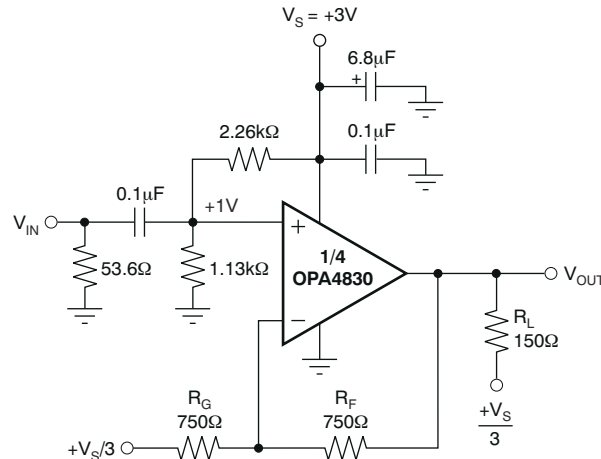
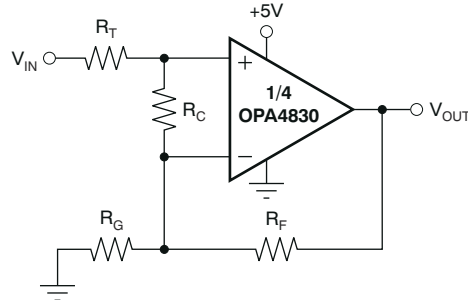

Figure 8-2. AC-Coupled, $G = +2V/V$, $+3V$ Single-Supply Specification and Test Circuit
Figure 8-7. Compensated Noninverting Amplifier
at $T_A = 25^\circ C$, $G = +2V/V$, and $R_L = 150\Omega$ to $V_S/3$ (unless otherwise noted); see also Figure 8-2
Figure 8-2 shows the ac-coupled, gain of $+2V/V$ configuration used for the $+3V$ electrical and typical characteristics. For test purposes, the input impedance is set to 50Ω with a resistor to ground. Voltage swings reported in the *Electrical Characteristics* $V_S = 3V$ are taken directly at the input and output pins. For the circuit of Figure 8-2, the total effective load on the output at high frequencies is $150\Omega \parallel 1500\Omega$. The $1.13k\Omega$ and $2.26k\Omega$ resistors at the noninverting input provide the common-mode bias voltage. The parallel combination equals the dc resistance at the inverting input (R_F), reducing the dc output offset as a result of input bias current.
Figure 8-7 shows a noninverting amplifier that reduces peaking at low gains. The resistor R_C compensates the OPA4830 to have higher noise gain (NG), which reduces the ac response peaking (typically 5dB at $G = +1V/V$ without R_C) without changing the dc gain. V_{IN} needs to be a low-impedance source, such as an op amp. The resistor values are low to reduce noise. Using both R_T and R_F helps minimize the impact of parasitic impedance.
Frequency response in a gain of $+2V/V$ can be modified to achieve exceptional flatness simply by increasing the noise gain to $3V/V$. One way to do this, without affecting the $+2V/V$ signal gain, is to add a $2.55k\Omega$ resistor across the two inputs (see Figure 8-7). A similar technique can be used to reduce peaking in unity-gain (voltage follower) applications. For example, by using a 750Ω feedback resistor along with a 750Ω resistor across the two op amp inputs, the voltage follower response is similar to the gain of $+2V/V$ response of Figure 8-2. Further reducing the value of the resistor across the op amp inputs further dampens the frequency response because of increased noise gain. The OPA4830 exhibits minimal bandwidth reduction going to single-supply ($+5V$) operation as compared with $\pm 5V$. This minimal reduction is because the internal bias control circuitry retains nearly constant quiescent current as the total supply voltage between the supply pins changes.
The criterion for setting this R_S resistor is a maximum bandwidth, flat frequency response at the load. For a gain of +2, the frequency response at the output pin is already slightly peaked without the capacitive load, requiring relatively high values of R_S to flatten the response at the load. Increasing the noise gain also reduces the peaking (see Figure 8-7).